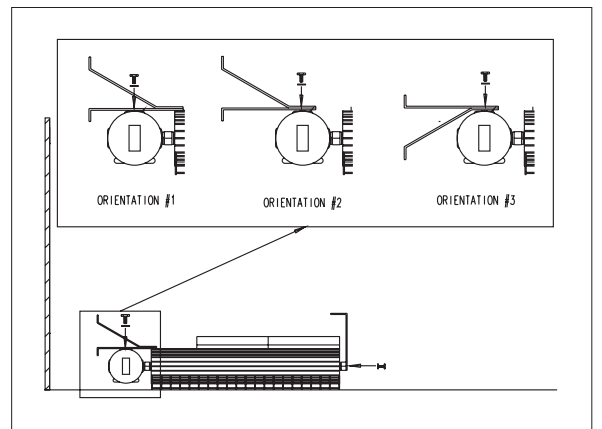

Figure 7 – Install mounting bracket to heater
**Step 2:** Fasten top stabilizing bracket(s) and floor mounting bracket(s) to the unit. Floor mounting brackets may be mounted in one of three orientations (Figure 7).